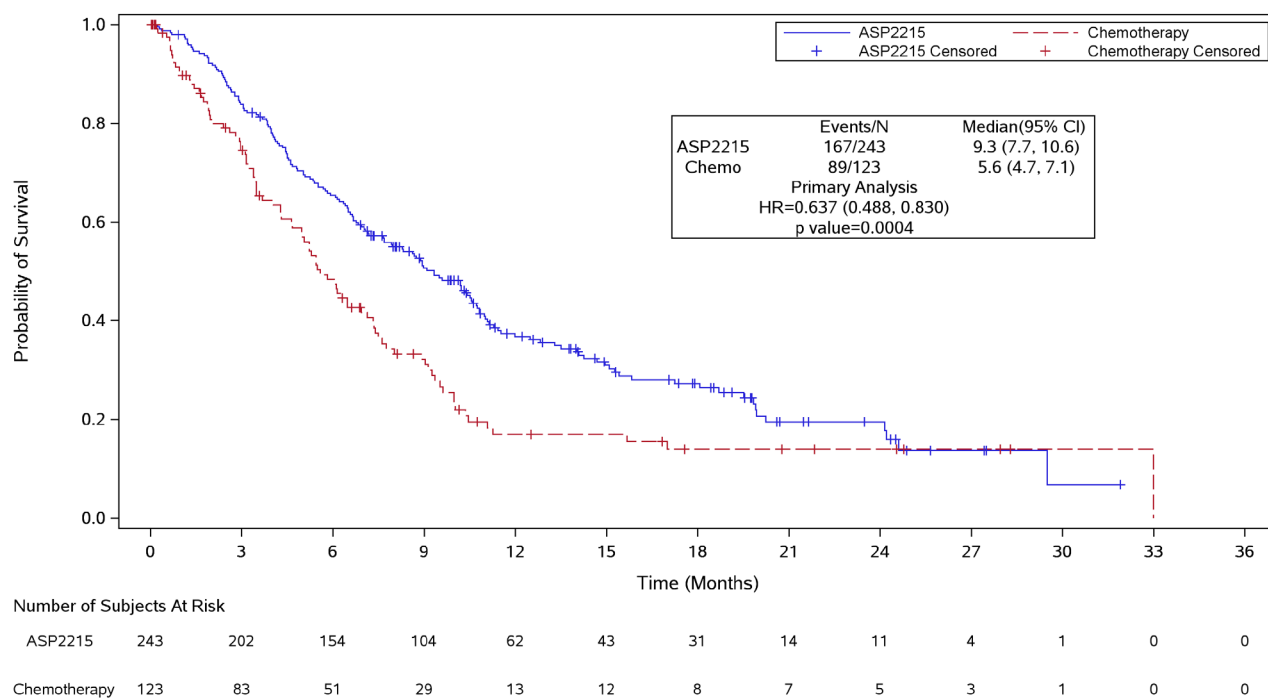

Figure 8 - Kaplan-Meier plot of overall survival.
- 18.1.6.1. At the final analysis, the median OS in the gilteritinib fumarate arm was longer (9.3 months) compared to that in the salvage chemotherapy arm (5.6 months) in the CDx+ population. The stratified hazard ratio (HR) by Cox regression was estimated to be 0.637 (95%CI 0.488, 0.830) relative to salvage chemotherapy, p-value (1-sided, stratified log rank) = 0.0004, corresponding to a relative risk reduction of death in favor of gilteritinib fumarate. The Kaplan-Meier plot is provided in Figure 8.